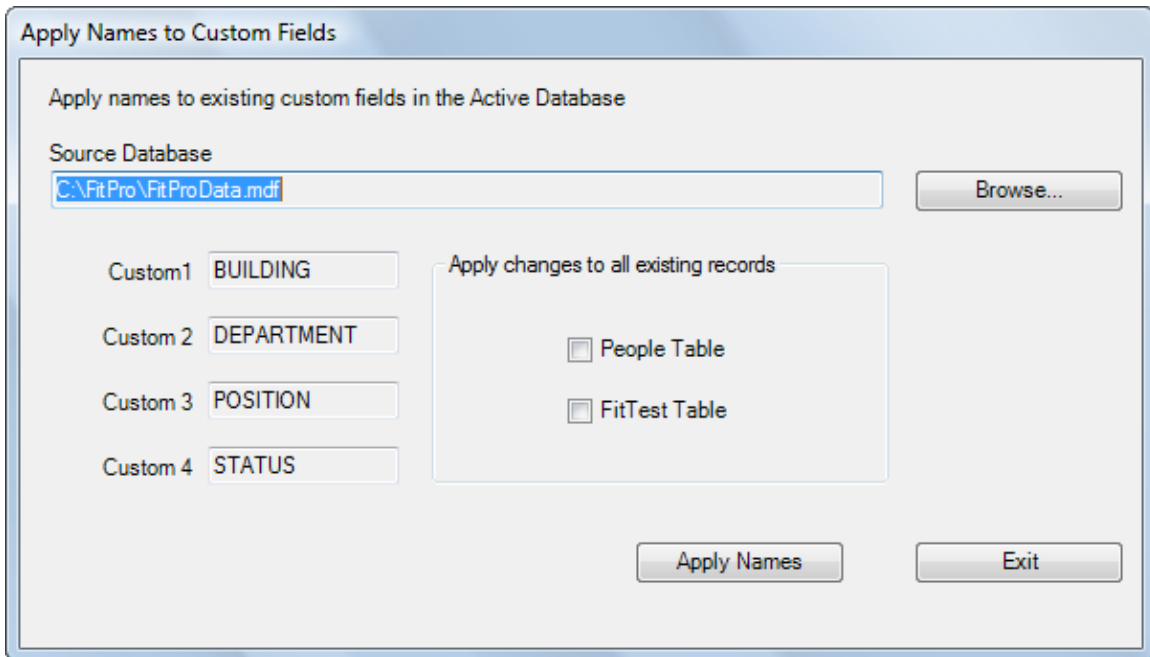

Figure 32. Apply Names to Custom Fields Dialog
1. Select **Database | Utilities | Apply Custom Names**. The Apply Names to Custom Fields dialog appears (Figure 32).